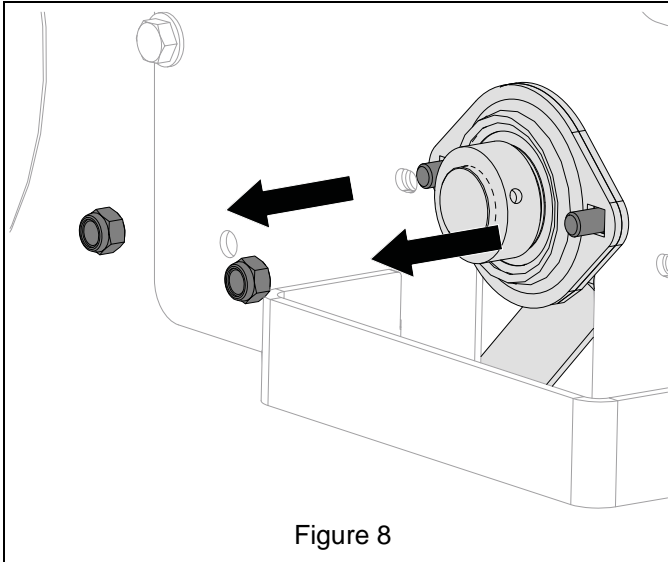

Figure 8
9. Support blade assembly and remove and retain two hex bolts and nyloc nuts from right flange bearing. See Figure 8.